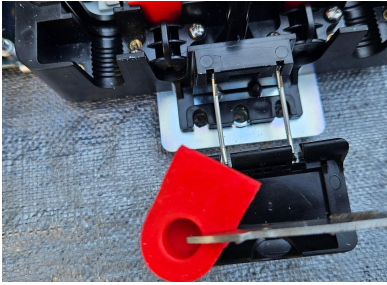

Fig. 8a
- Cut a slot on one side of the cable grommet as shown in Figures. 8a and 8b.